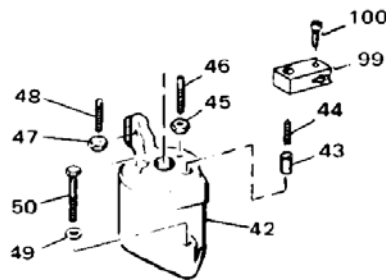

Figure 3-3. Exploded View of Speed Setting Cylinder
4. Initially position the speed setting piston stop setscrew (48, Figure 3-3) so that it projects 1/2 inch above top of the speed setting cylinder.
Make certain the maximum speed limiting valve adjusting screw (44, Figure 3-3) on speed setting piston rod is not contacting and' prematurely unseating the limiting check valve (43) in top of the speed setting cylinder.
8. Adjust control air pressure to the maximum value. Allow prime mover speed to stabilize. Turn the limiting valve adjusting screw (44, Figure 3-3) cw until prime mover speed just begins to drop, then back out 1/4 to 1/2 turn and lock in position. This will prevent or limit accidental overspeeding of the prime mover should the speed setting piston be moved past its high speed position for any reason.
10. Turn the piston stop setscrew (48, Figure 3-3) cw until it just contacts top of the speed setting piston and then back out three full turns (3/32 inch/2.4 mm) and lock in position.